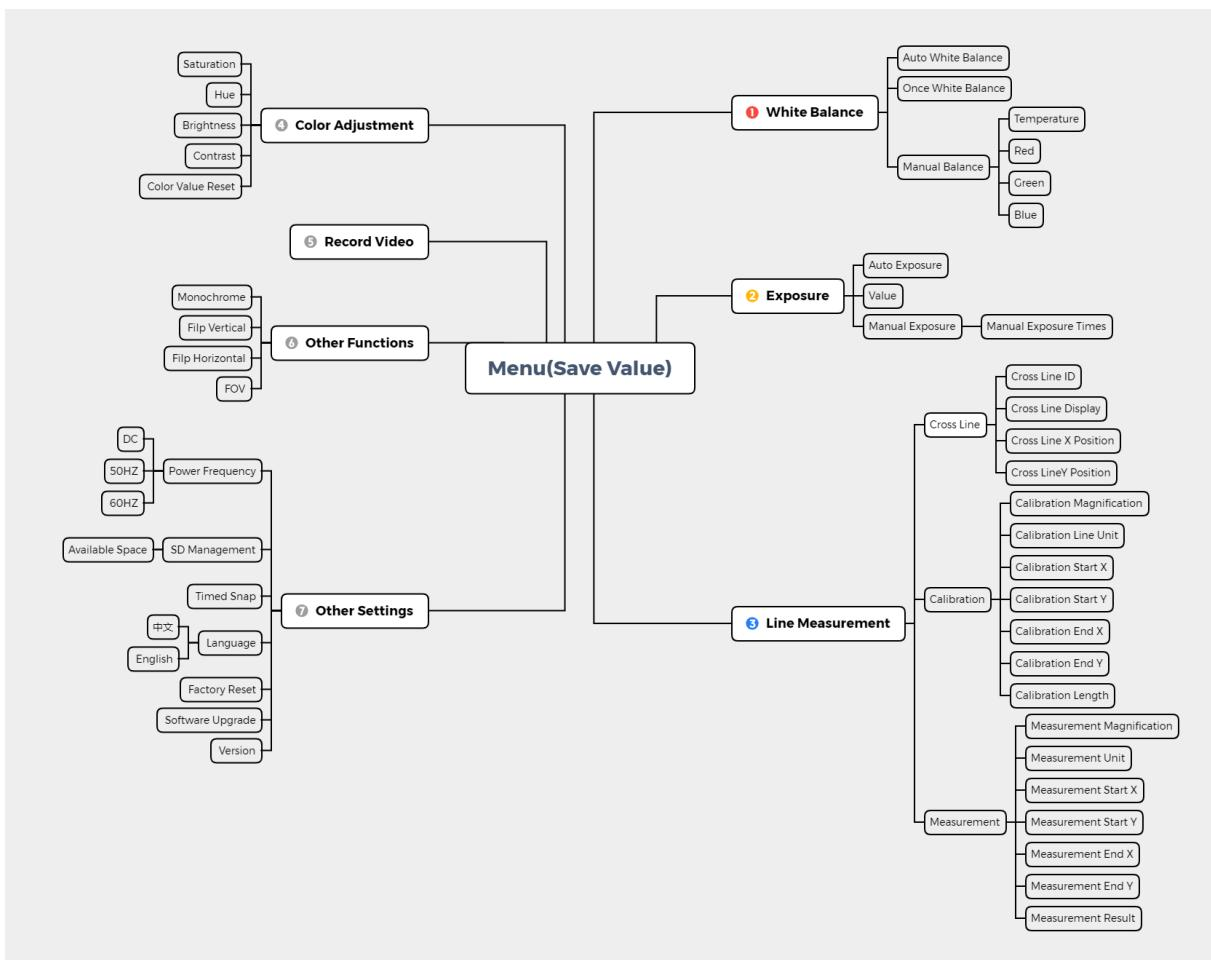

Fig. 23
4. The specific functions of this menu are shown in Fig. 23.